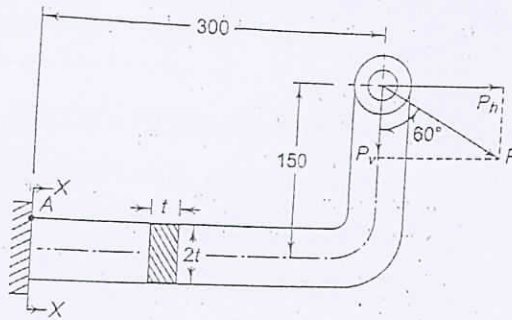

Fig. 11
11. A wall bracket with a rectangular cross-section is shown in Fig. 11. The depth of the cross-section is twice of the width. The force P acting on the bracket at 60° to the vertical is 5 kN. The material of the bracket is grey cast iron FG-200 and the factor of safety is 3.5. Determine the dimensions of the cross-section of the bracket. Assume maximum principal stress theory of failure.